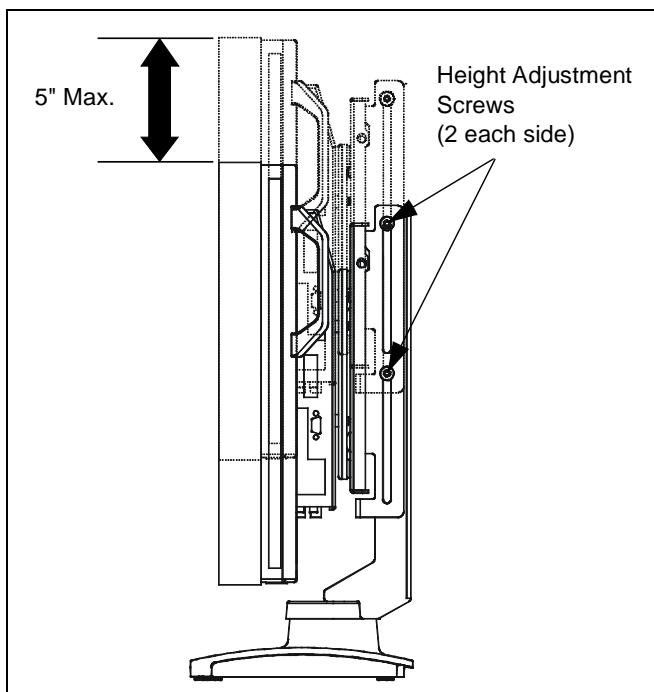

Figure 9
1. While holding the display, loosen the four height adjustment screws. (See Figure 9)
3. Tighten four height adjustment screws. (See Figure 9)